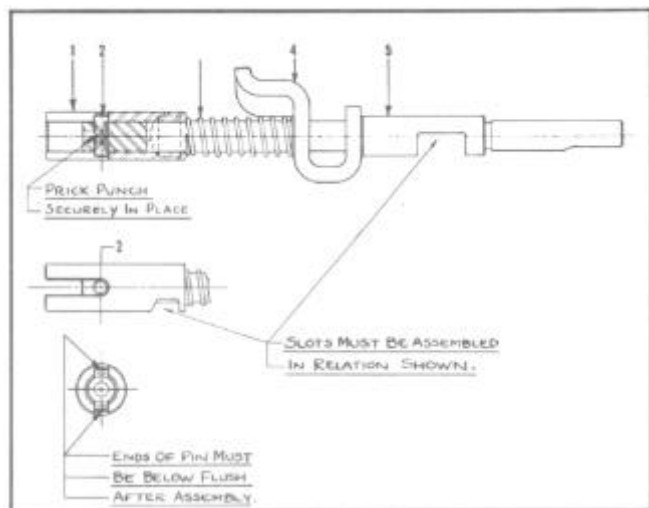
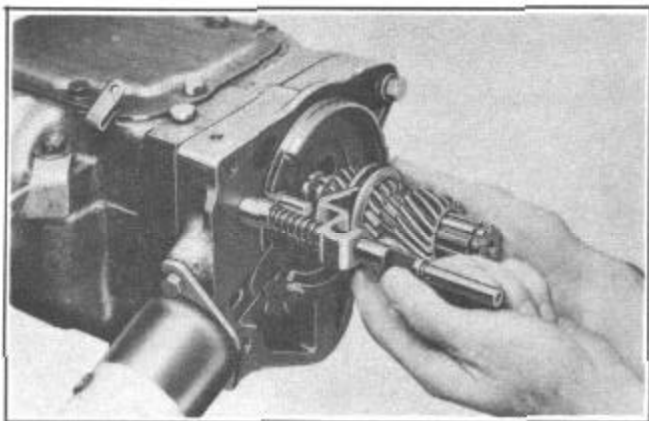

FIGURE 20
FIGURE 25
Drive out shift rail pin (2), Figure 20, remove sleeve (1), spring (3) and shifter fork (4).
5. Install the sun gear, shift rail and fork assembly, Figure 25. Check position of shift rail slots as shown in Figure 20, at assembly. (THIS IS IMPORTANT).
**NOTE:** If shift rail assembly has been taken apart, prick punch pin (2), Figure 20, securely in place before reinstalling assembly. Shifter fork should be a sliding fit in sun gear collar groove.